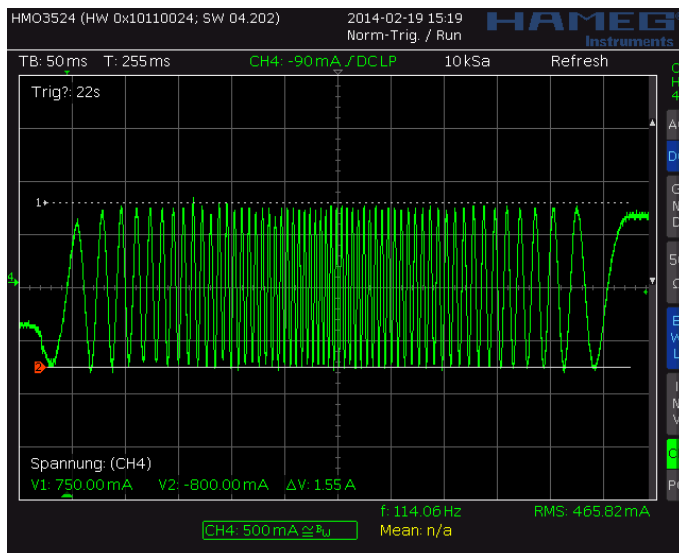
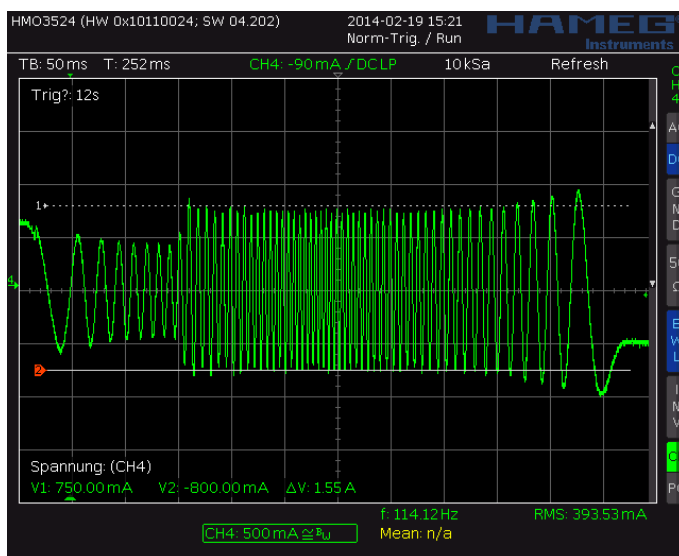
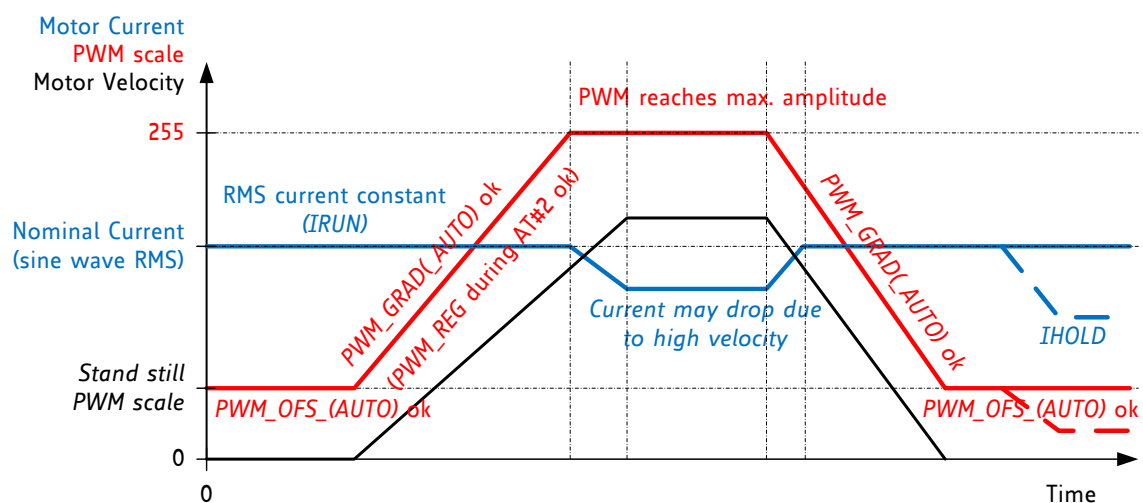

Figure 6.3 Scope shot: good setting for PWM_REG
Figure 6.4 Scope shot: too small setting for PWM_REG during AT#2
Figure 6.5 Successfully determined PWM_GRAD(AUTO) and PWM_OFS(AUTO)
In StealthChop voltage PWM mode, the autoscaling function (*pwm_autoscale* = 1, *pwm_autograd* = 1) regulates the motor current to the desired current setting. Automatic scaling is used as part of the automatic tuning process (AT), and for subsequent tracking of changes within the motor parameters. The driver measures the motor current during the chopper on time and uses a proportional regulator to regulate *PWM_SCALE_AUTO* in order match the motor current to the target current. *PWM_REG* is the proportionality coefficient for this regulator. Basically, the proportionality coefficient should be as small as possible in order to get a stable and soft regulation behavior, but it must be large enough to allow the driver to quickly react to changes caused by variation of the motor target current (e.g. change of VREF). During initial tuning step AT#2, *PWM_REG* also compensates for the change of motor velocity. Therefore, a high acceleration during AT#2 will require a higher setting of *PWM_REG*. With careful selection of homing velocity and acceleration, a minimum setting of the regulation gradient often is sufficient (*PWM_REG*=1). *PWM_REG* setting should be optimized for the fastest required acceleration and deceleration ramp (compare Figure 6.3 and Figure 6.4). The quality of the setting *PWM_REG* in phase AT#2 and the finished automatic tuning procedure (or non-automatic settings for *PWM_OFS* and *PWM_GRAD*) can be examined when monitoring motor current during an acceleration phase Figure 6.5.